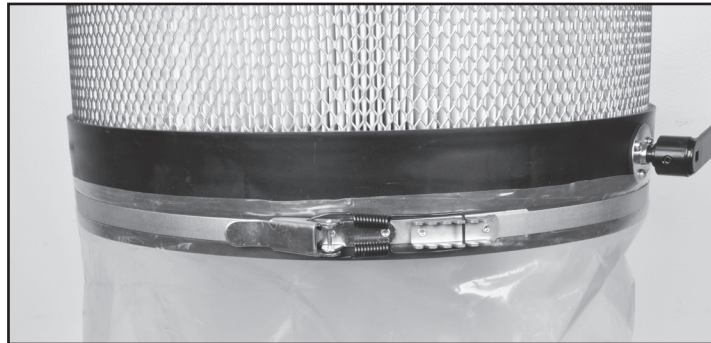

FIG. 8
2. Install the Strap Clamp (#16) around the canister and over the plastic bag. Lock it in place with the strap clamp. Engage the catch end of the strap with the clasp in the appropriate slot to ensure a tight fit, and press the lever with the palm of your hand to lock the clamp. Figure 8.